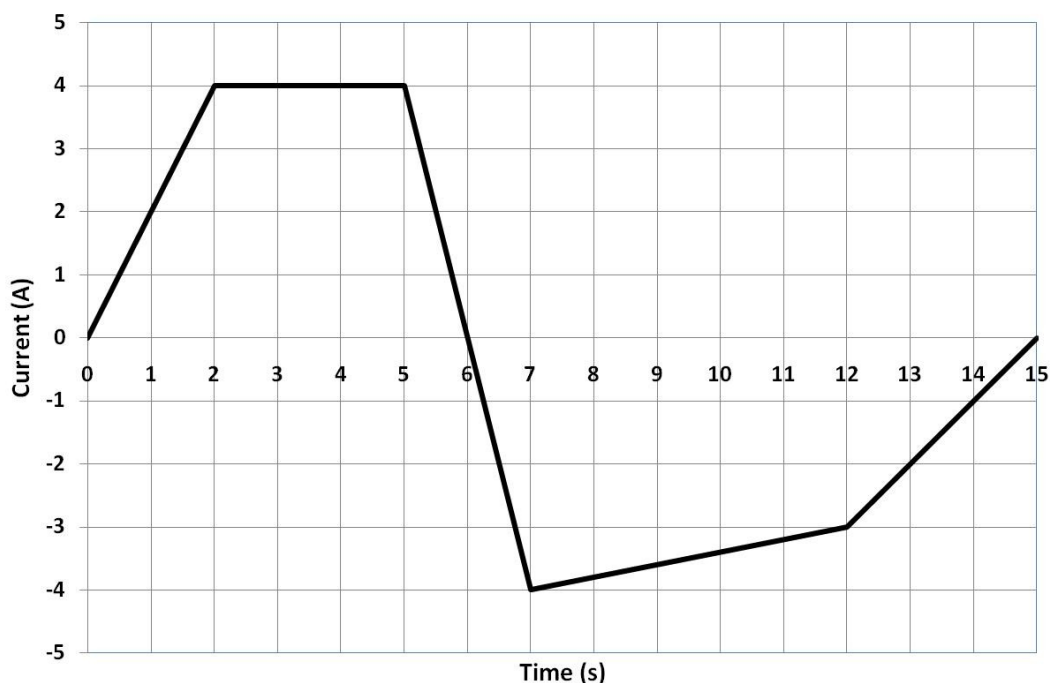

Figure 4.1 – Current waveform applied to load over a 15 second period
- iii) The peak flux density in the core for supply frequencies of 380Hz and 800Hz. (6)
- d. If the core begins to magnetically saturate at 1.6T, calculate the minimum AC supply frequency which can be applied to the coil to avoid the onset of saturation (the magnitude of the voltage supply remains at the same 115 Vrms value) (5)
- e. The manufacturer of the inductor receives a request from a customer to double the inductance. The inductor manufacturer chooses to meet this request by reducing the length of the airgap in the core, leaving all other dimensions and the number of turns on the coil fixed. Calculate the new airgap length which will be required to satisfy the customer request (*Hint: You may neglect the effect on the core reluctance of the change in airgap length*). (4)
- a. Calculate the magnitude and phase of the line current drawn by the centre when operating at full capacity. (3)
- b. Calculate the real power, the VAR and the VA drawn by the centre when operating at full capacity. (4)
- c. In order to improve the power factor to 0.98 lagging for the centre when operating at full capacity with the same real power, a three-phase star-connected set of capacitors is connected in parallel with the centre electrical loads. Calculate the values of the capacitors which would be required to achieve this improved power factor. (5)
- d. Calculate the VA supplied to the centre when the power factor correction capacitors are installed and hence the line current drawn. (2)
- e. When the shopping centre is closed to the public overnight, the power requirement is reduced such that the effective impedance per phase is $32+j9.4\Omega$. In order to improve the power factor during both full capacity in the daytime and overnight on reduced load it is proposed to divide the capacitor bank in part (c) into two parts such that a proportion of it can be switched out of the circuit overnight. Calculate the value of capacitance which must be switched out of circuit when the centre is closed to achieve a power factor of 1.0. (6)
4. Figure 4.1 shows the current waveform which is imposed through a load over a 15s cycle. It consists of 5 distinct intervals (0-2s, 2-5s, 5-7s, 7-12s and 12-15s). The load has a resistance of 2Ω and an inductance of 2H.